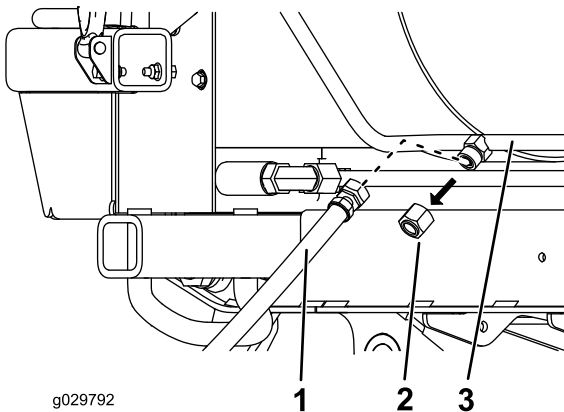

Figure 15
- A. Remove the cap from the hardline of the oil-cooler return hose (Figure 15).
- B. Thread the short hose to the hardline (Figure 15).